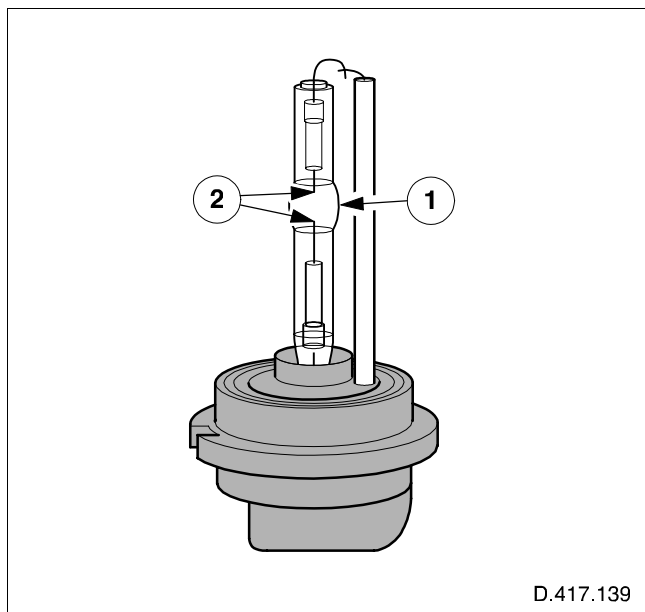

Fig. 94 Xenon lamp
The chamber, item 1 (Fig. 94) contains xenon gas and a mixture of metal halide salts.